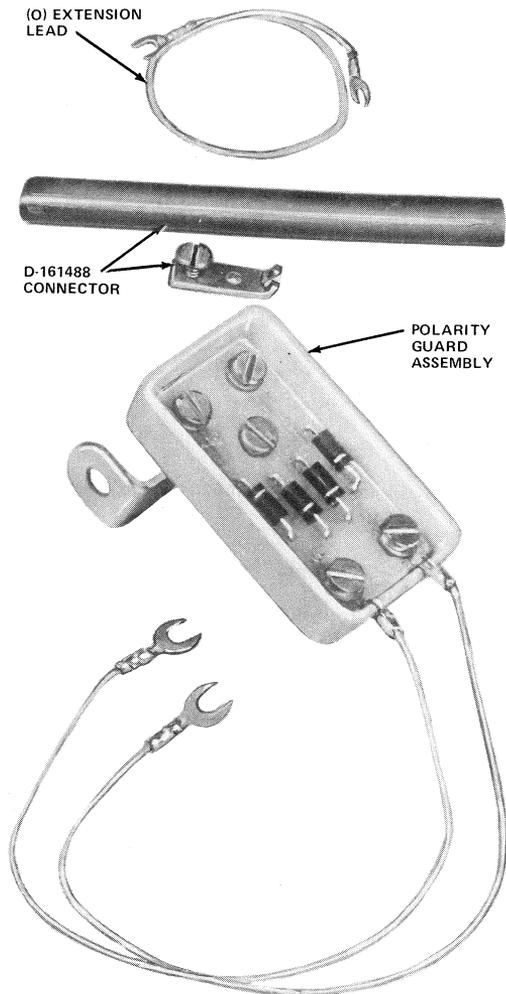

Fig. 63—D-180893 Kit of Parts (Polarity Guard)
5.54 The D-180893 Kit of Parts (polarity guard) is mounted on the bottom left-hand corner of the dial housing (looking at the rear of the housing), directly below TB2. The lower left-hand mounting screw is removed from the housing and inserted into the mounting bracket of the kit. The kit is then fastened into place by inserting the screw into the same hole it was removed from. See Fig. 63.
5.55 For D-180893 Kit of Parts (polarity guard) connections to 1C2/2C2 coin telephone set, DTF mode only, refer to Fig. 63 and to Table R.